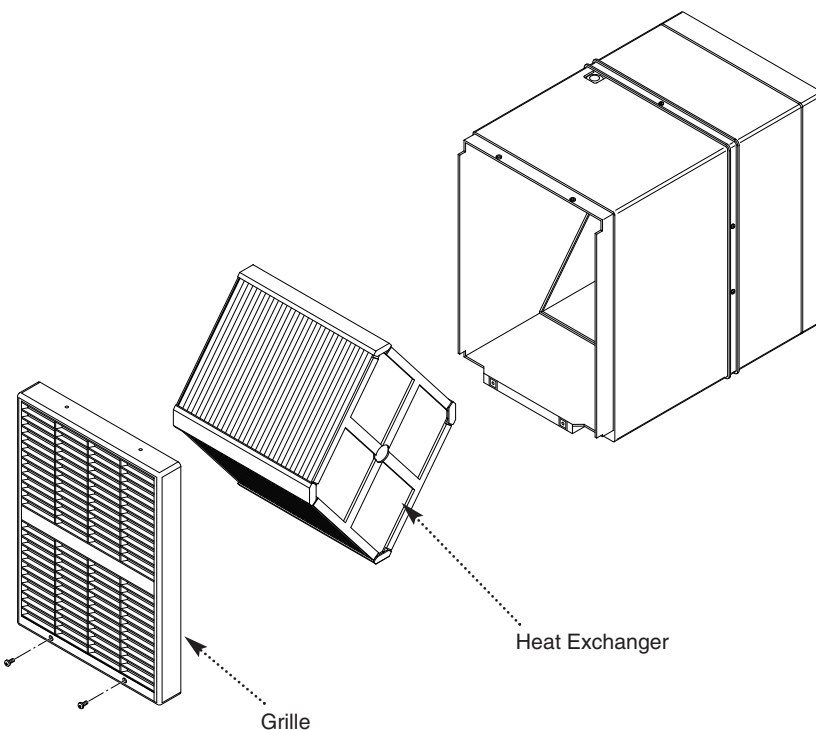

Fig. 4
6. Remove the grille, heat exchanger, from the unit (Fig. 4).